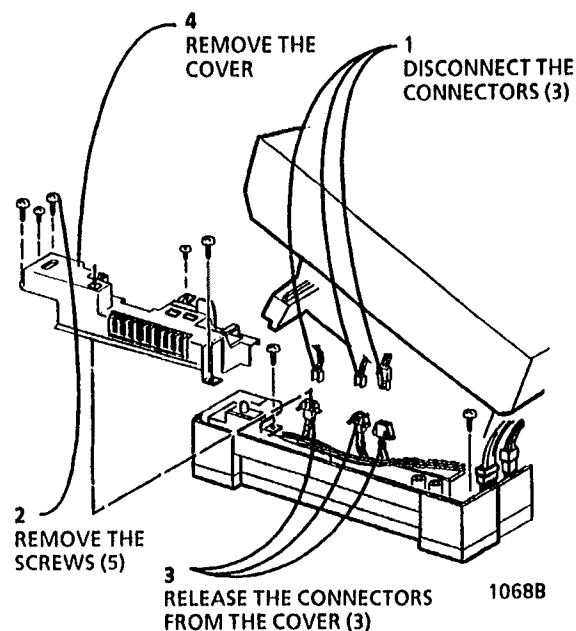

Figure 1. Removing the LVPS Cover
2. (Figure 1): Remove the Low Voltage Power Supply Cover.